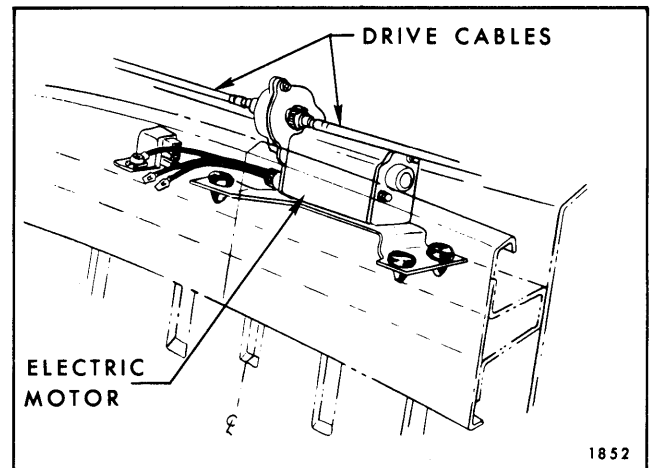

Fig. 13-70—Folding Top Electric Motor and Cables
- b. Disconnect both drive cables from motor assembly (Fig. 13-70).
2. Disconnect both drive cables from motor assembly (Fig. 13-70).